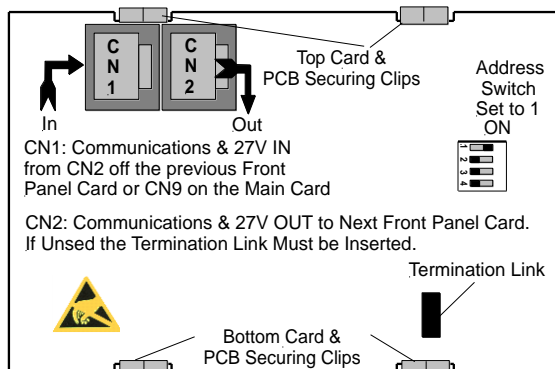

Figure 2: Zone Disable and Indicator Card PCB Layout
2. Set the required Address using the 4 way dip switch (Figure 2)
3. If fitted as the last module the EOL link needs to be fitted (Figure 2)